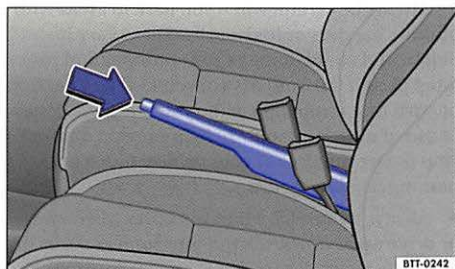

Fig. 127 Between the front seats: Parking brake.
- Pull the lever up slightly and press the release button $\Rightarrow$ fig. 127 (arrow).